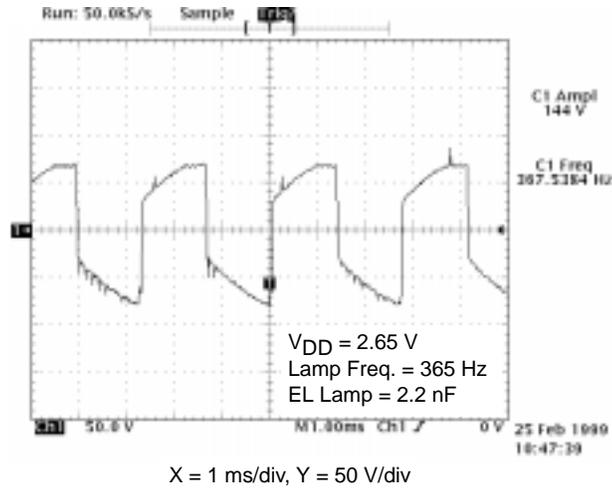
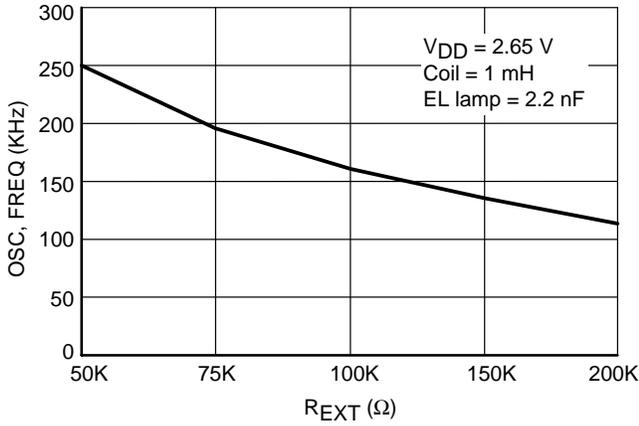

Figure 3. Output Waveform versus Time
Figure 4. Oscillator Frequency versus R_{EXT}
Since the fundamental frequency of the oscillator is set by the external resistor (R1), the temperature coefficient of the frequency is dominated by the value of this resistor. A low temperature coefficient (TC) resistor is suggested to use for keeping the variation of oscillator’s frequency low against the operation temperature range. (See Page 4, Fig. 3 & Fig. 4)